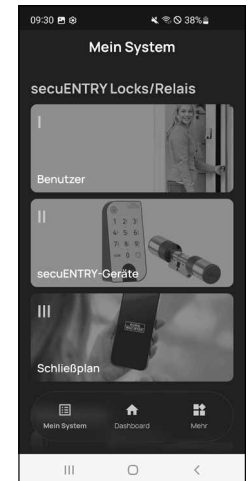

Fig. 8
- 8 You can now leave the menu (*I - User*). Return to the "My System" menu (Fig. 8).